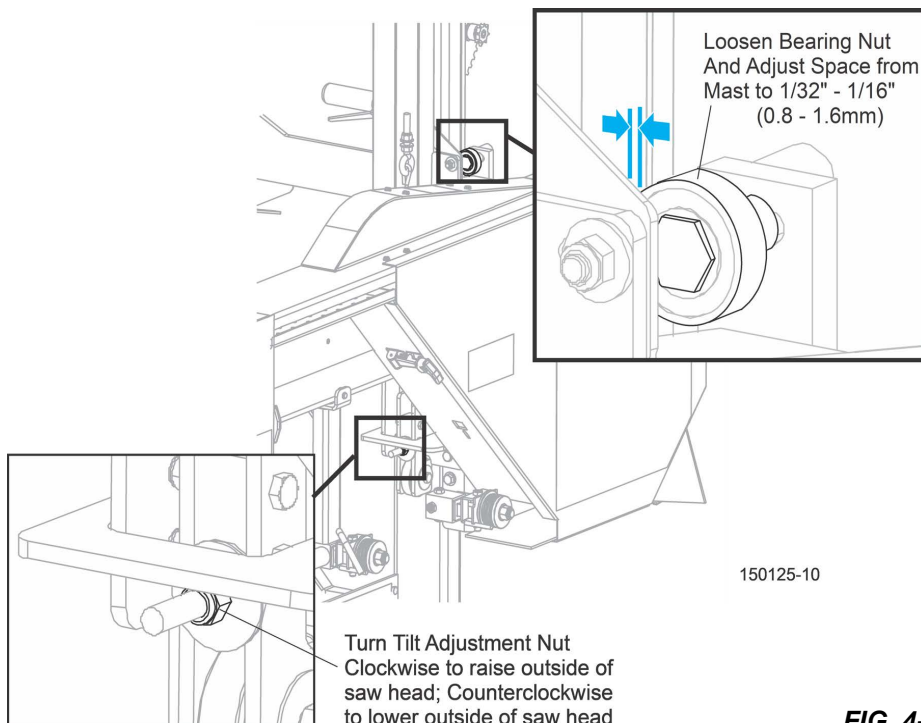

FIG. 4-2
3. After the saw head is adjusted parallel to the bed rail, check the space between the uppermost mast bearing and mast rail. Adjust as necessary so the space is 1/32" - 1/16" (0.8 - 1.6mm). See FIG. 4-2.